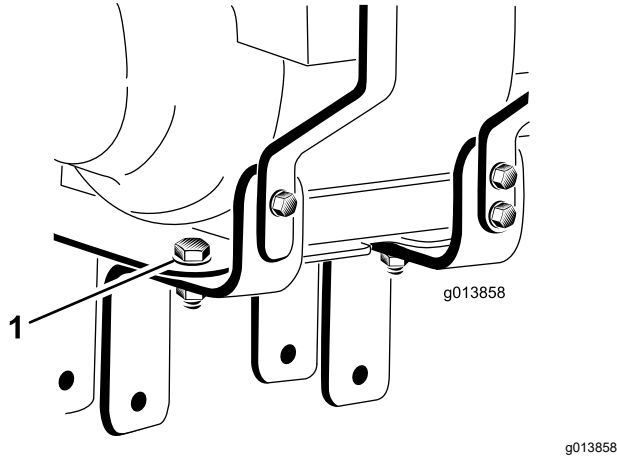

Figure 3
3. Loosen, but do not remove, the 2 bolts and nuts securing the engine mount brackets to the engine mounting plate (Figure 3).